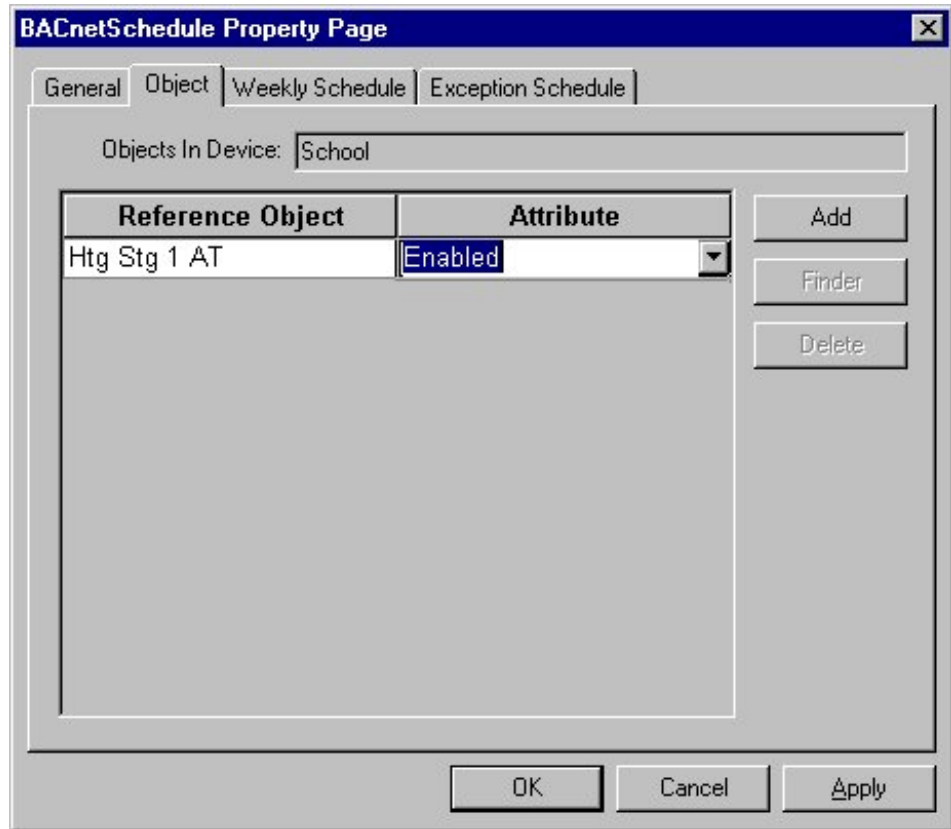

Figure 8-3: BACnetSchedule Property Page - Object Tab
1. Select the Object tab on the BACnetSchedule Property Page (Figure 8-2). The BACnetSchedule Property Page appears with the Object tab selected (Figure 8-3).
3. Select the attribute for the object from the drop-down list that appears. In the example in Figure 8-3, the Enabled attribute of an Analog Totalization object for Heating Stage One is scheduled to change state at the times and dates specified by the current schedule.